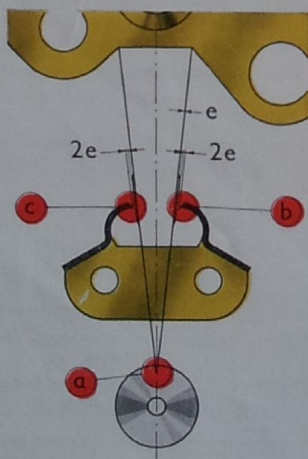
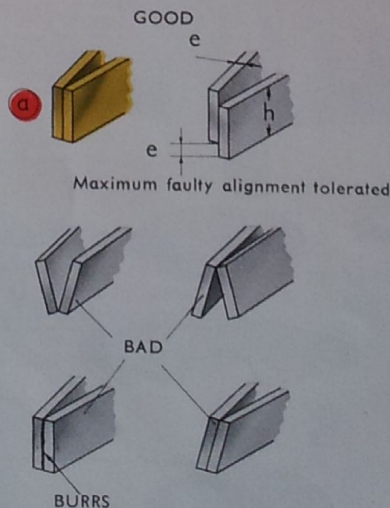
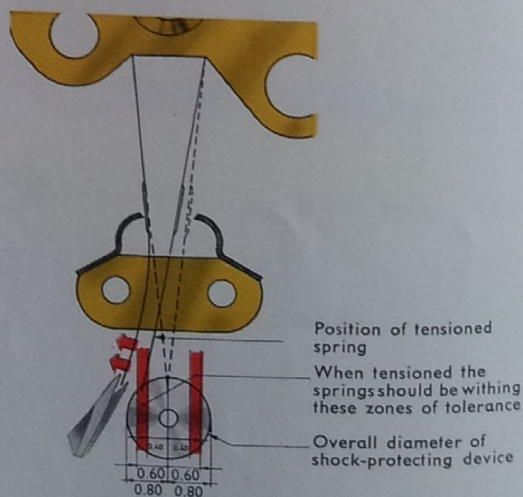

Fig. 19
Fig. 20
Fig. 21
Place the movement on the side of the movement holder that is intended to take the plate. Check for clean contacts at points a, b and c, fig. 19. Check the tips of the contact springs with special care and, if necessary, correct them with a pair of special tweezers to obtain the position shown at (a), fig. 20. See that the contact springs are correctly centered. The point at which they touch and press against each other should be in line with the hole of the balance jewel, fig. 19. Check the tension of the contact springs, fig. 21; the tension is the pressure exerted by the springs as their tips press against each other. Proceed as follows: holding one of the contact springs by its free end, draw it away with a pair of tweezers. This will release the other spring, which should automatically shift 0.4 to 0.6 mm. away from the hole of the balance jewel. The amount of this shift should be between half and two thirds of the total radius of the shock-protecting device. Check the tension of the other contact spring in the same way. The space between the contact springs and the beaks of the contact plate should be adjusted by bending the beaks slightly. The space should be equal to twice the thickness of a spring (2e), fig. 19. For checking this space and the tips of the contact springs, a strong magnifying glass (12 to 20  $\times$ ) should be used.
**Correction:** check the contact finger and the tips of the springs, as well as the tension (v. 5. 5), fig. 20 and 21.